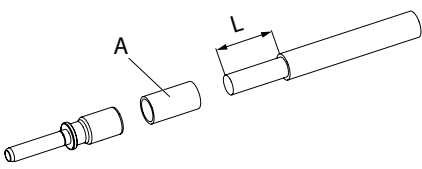

Fig. 2:
If a reduction of the connection cross section is necessary, use reducing bushing (A) (Fig. 2).